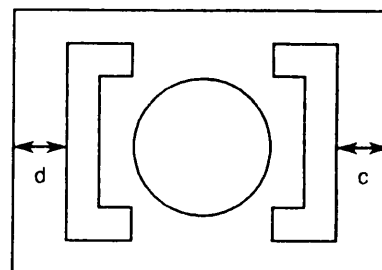

Fig 1.
- 3: Adjust H. CENTRE SUB control (R451) so the pattern can be located for d-c to be +4.0 mm as shown in Fig 1.